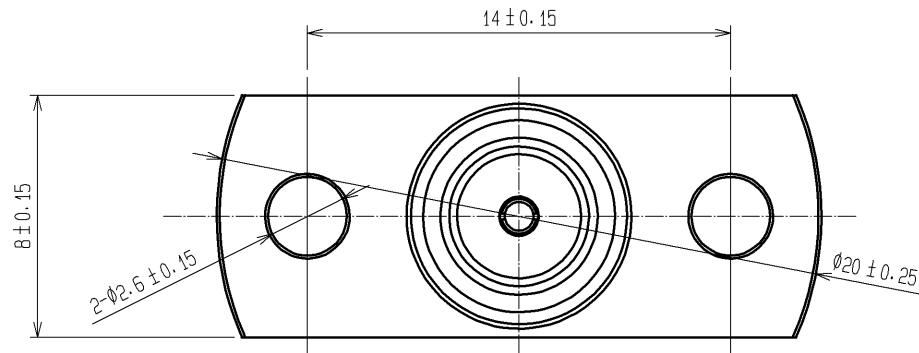

figure 1 (2:1)
2. Mating angle must be less than ±2 degree. (refer to figure 1)